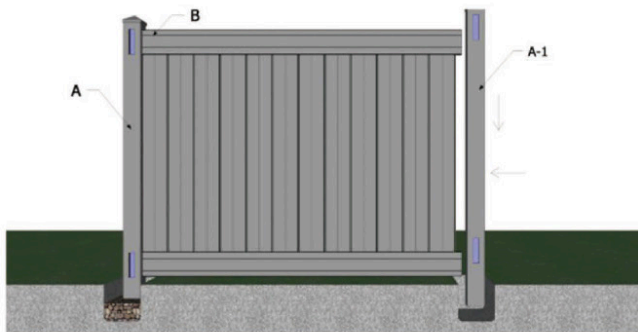

Fig 5
6. Set a second post (A-1) into the post hole on the other side of the Pre-assembled Panel. Put the top and bottom rails into post (A-1) making sure that the locking tabs are fully inserted into the post. (see Fig. 5).